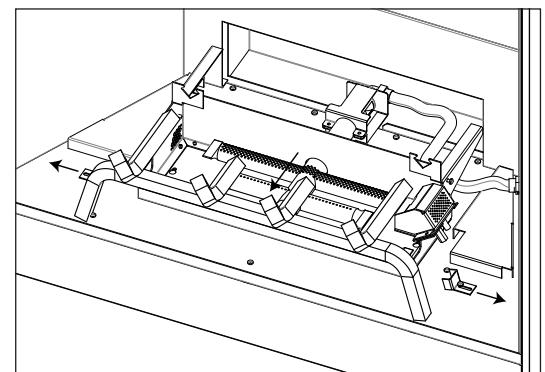

Figure 9: Log Grate Removal
6. Remove the Log Grate by loosening the two screws holding the log grate clamps in place near the front of the grate and sliding them outwards (see Figure 9).